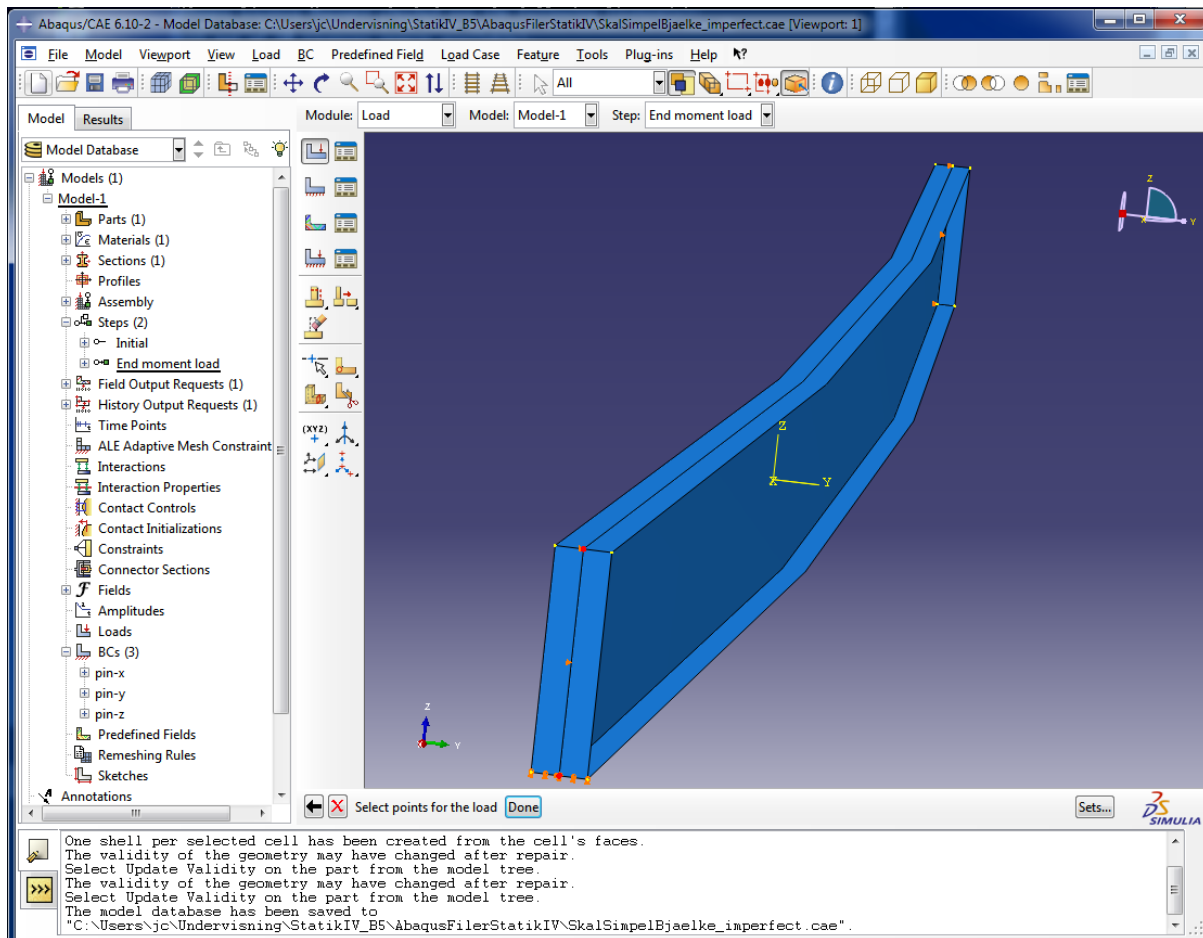

Figure 9 Points at which the moment is applied at one end of the beam.
- d. Select the mid-points at the bottom edge and the top edge at one end of the beam. Again, use Shift to mark more points at a time. When the visualization of the model looks like the illustration on Figure 9, click **Done** in the prompt area.